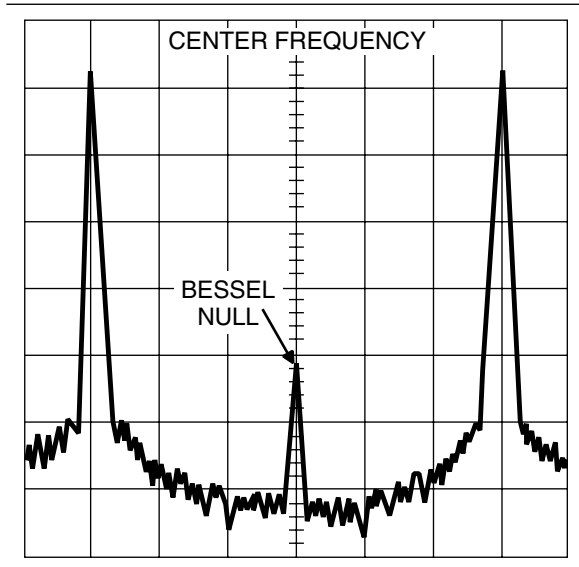

Figure 4-14. Typical Spectrum Analyzer Display of Bessel Null on FM Waveform
- e. While observing the first Bessel null (Figure 4-14) on the Spectrum Analyzer display, adjust the value of the DAC's setting to reduce the carrier level as low as possible.
- d. While observing the first Bessel null (Figure 4-14) on the Spectrum Analyzer display, adjust the value of the DAC's setting to reduce the carrier level as low as possible.
- f. While observing the first Bessel null (Figure 4-14) on the Spectrum Analyzer display, adjust the value of the DAC's setting to reduce the carrier level as low as possible.